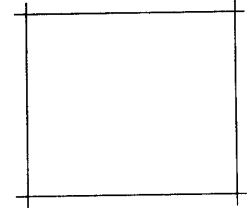

FIGURE 2.40 ■ Step 3, proportioned box.
- Step 3. On your sketch, correctly locate a proportioned box similar to the one established on the original drawing or object, as shown in Figure 2.40.